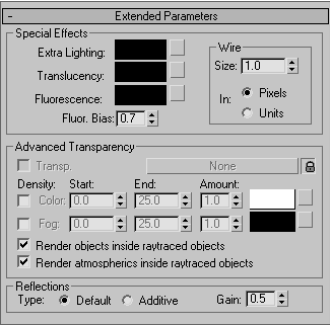

Figure 11.31
7. Go to the Extended Parameters rollout (Figure 11.31). The Reflections section of the parameters is at the bottom. Select Additive and change Gain to 0.7. This gives a bit of reflection brightness for the clear wine glass.